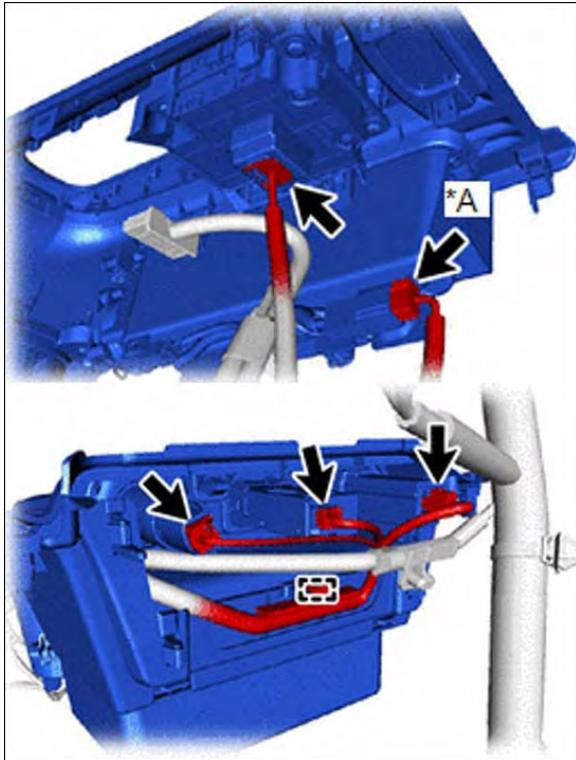

Figure 57
- (a) With wireless charger, connect the connectors, as shown in Figure 57.